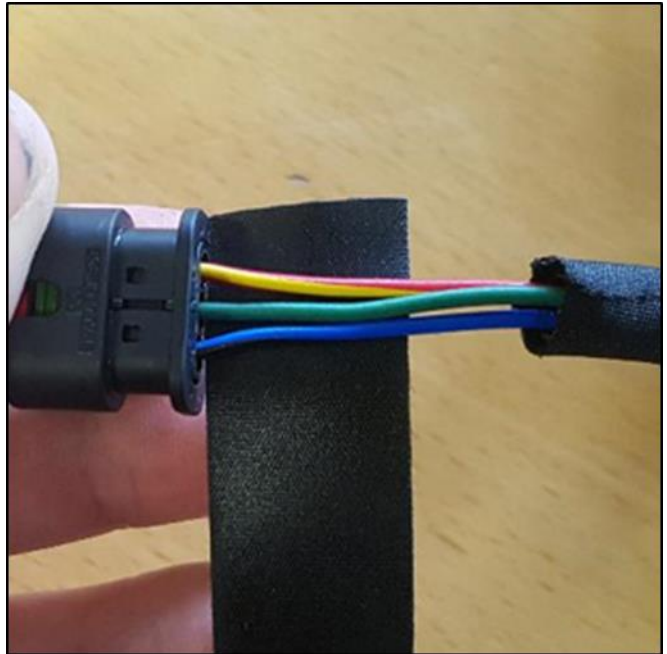

Figure 4
4. Attach the black self-amalgamating tape to the back of the connector wires. (Refer to Figure 4.)